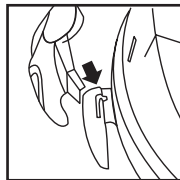

FIGURE 9
9. Place "J" shaped tabs into the slots on cord wraps. **FIGURE 9.** Press down until tabs snap into place.